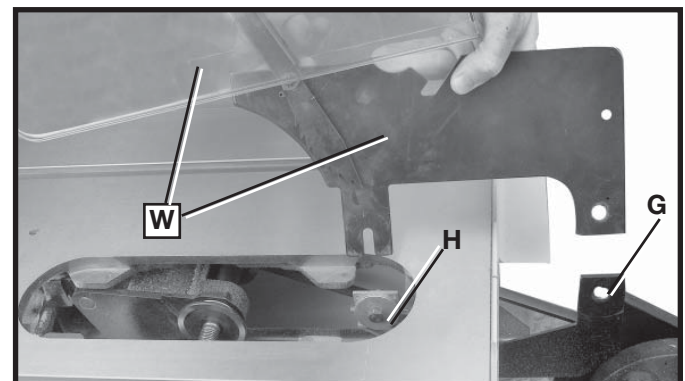

Fig. S14
⚠ CAUTION FOR CERTAIN CUTTING OPERATIONS (DADOING AND MOULDING) WHERE THE WORKPIECE IS NOT CUT COMPLETELY THROUGH, THE BLADE GUARD AND SPLITTER ASSEMBLY CANNOT BE USED. LOOSEN SCREWS AT (G) AND (H) FIG. S14. LIFT UP AND REMOVE BLADE GUARD AND SPLITTER ASSEMBLY (W).